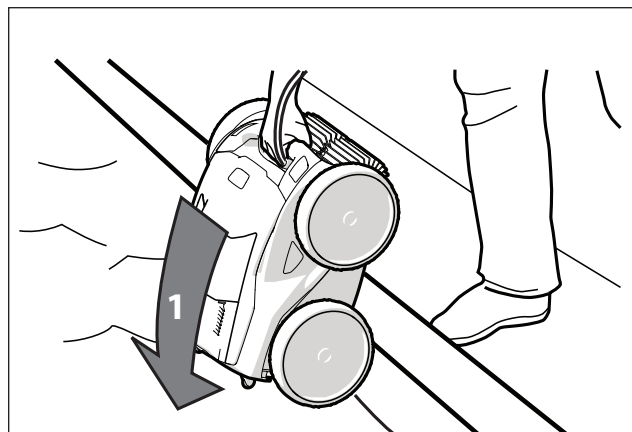

Figure 11. Submerge the Cleaner Vertically
2. At the center point, submerge the cleaner in the pool and hold in the vertical position to release any air trapped inside. (Figure 11).